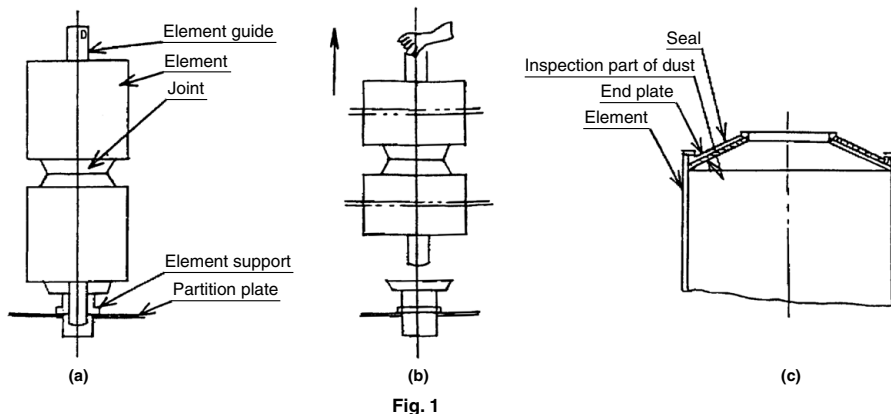

Fig. 1
After the element holder is taken out, if the element guide is taken out in such a manner as shown in Fig. 1, the element and joint can be taken out together.
- 5-1. In the case of the micro mesh element (cylindrical or pleat type (spherical seal is not used)) and sintered element, be sure to remove dust completely between end plate and seal completely. (Refer to Fig. 1 (c))
* Incidentally, when the number of arrangements is many and the number of piling of elements is 3-4 stages, the one in which element and joint are set in the element guide can be set at element support. [Refer to Fig. 1 for the details: Procedure opposite to that for removal]